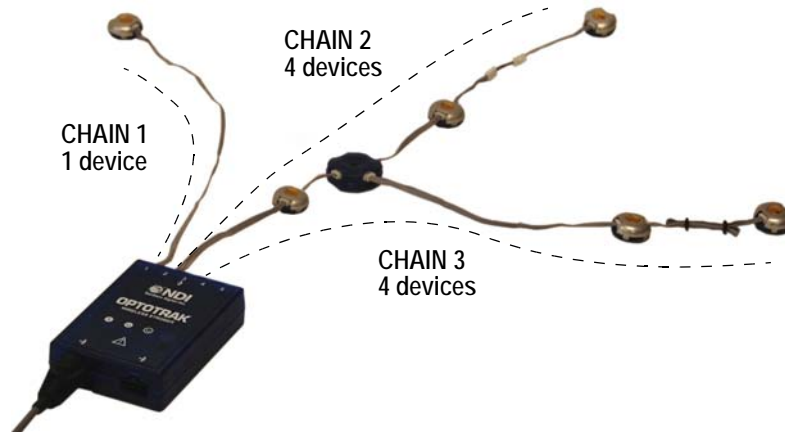

Figure 11-3 Typical Smart Marker Configuration
- Create branching at the smart marker hubs. New chains thus formed begin at the strober and end at the last smart device in the chain. Note that some smart devices may be common to several chains. An example of this is shown in *Figure 11-3* where a smart marker and a smart marker hub are common to both Chain 2 and Chain 3.